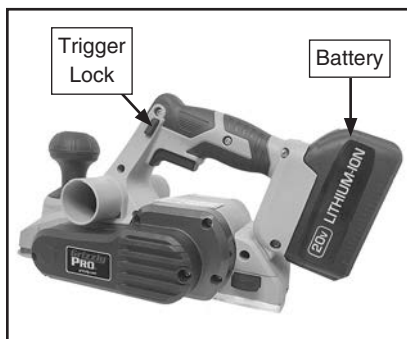

Figure 6. Battery in planer.
2. Move trigger lock to center position to prevent tool from starting, then slide battery into port on back of planer (see **Figure 6**).